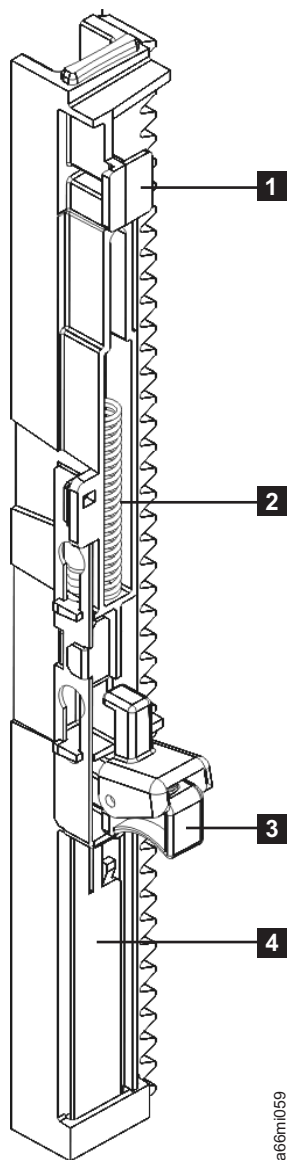

Figure 8-69. Gear rack (detail)
6. Remove the gear rack by pulling the black tab (**1** in Figure 8-69 on page 8-71) and the gear rack locking mechanism (**3** in Figure 8-69 on page 8-71) through the keyhole slots.
Note: Don't lose the spring (**2** in Figure 8-69 on page 8-71) that is recessed in the gear rack slot.
2. Using your thumb, push the metal slide (**4** in Figure 8-69) toward the gear rack locking mechanism (**3** in Figure 8-69) and hold it in place while inserting the black tab (**1** in Figure 8-69) and locking mechanism into the keyhole slots in the library chassis.